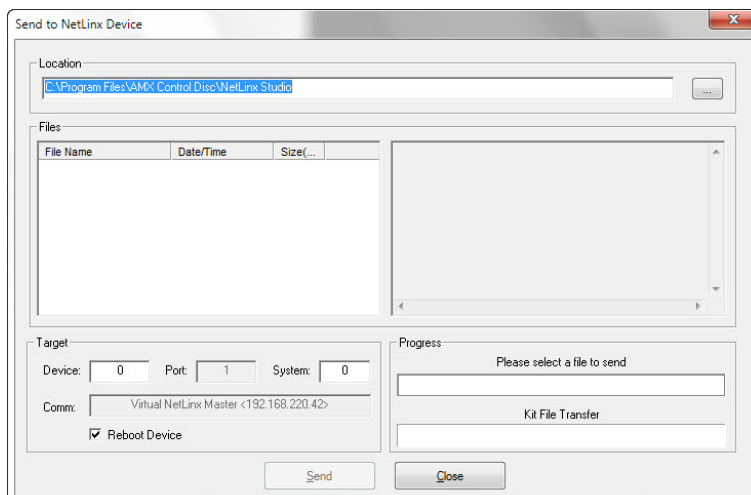

FIG. 30 Send to NetLinx Device dialog window
3. Select **Tools > Firmware Transfers > Send to NetLinx Device** from the main menu to open the *Send to NetLinx Device* dialog (FIG. 30). Verify that the panel's System and Device number values match those values listed within the System folder in the **OnLine Tree** tab of the Workspace window.